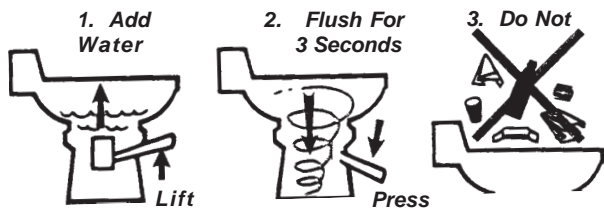

Figure J4: VacuFlush Operations
The VacuFlush® toilet operates in a different way from other marine toilets. VacuFlush® systems use a small amount of water (a little more than a pint) per flush in addition to a simple vacuum. The toilet is connected to the fresh water system. Fresh water is the key to an odor free bathroom compartment. VacuFlush® toilets are equipped with an integrated vacuum breaker which prevents the possible contamination of the potable/fresh water supply. See Figures J4 & J5. Also refer to the manufacturer's literature included in the owner's packet.
1. To add water to the toilet before using, raise flush lever until desired water level is reached. Generally, more water is required only when flushing solids. See Figure J4.